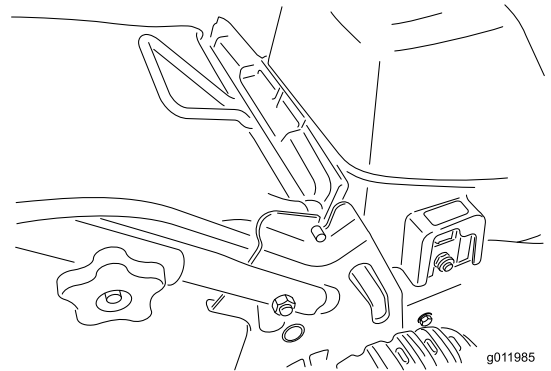

**Figure 9**
1. Lift up the rear deflector (Figure 9).